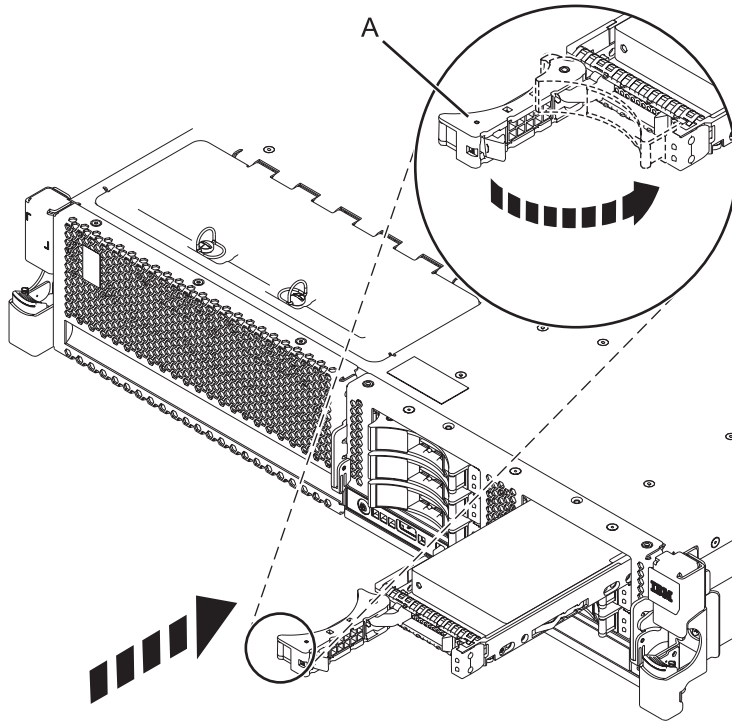

Figure 6. Installing the disk drive in the system
6. When the identify LED flashes, slide the drive all the way into the system or an expansion unit, and push the drive handle (A) in until it locks, as shown in Figure 6 on page 15.